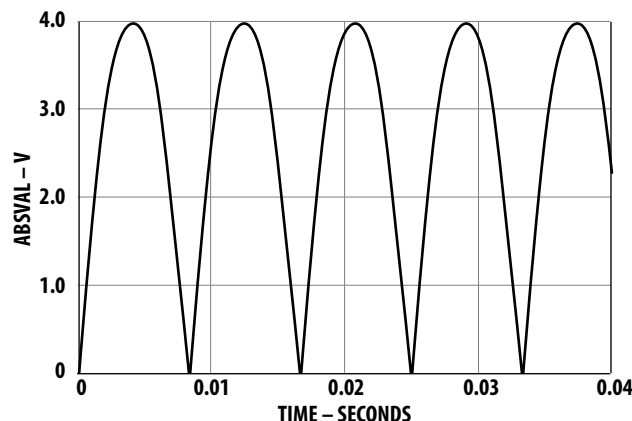

Figure 24. ABSVAL with 1 phase
4.6: Why is gain defined as $V_{REF}/504$ mV, not $V_{REF}/512$ mV as expected, based on Figure 24?	Ideally gain would be $V_{REF}/512$ mV, however, due to internal settling characteristics, the average effective value of the internal 256 mV reference is 252 mV.